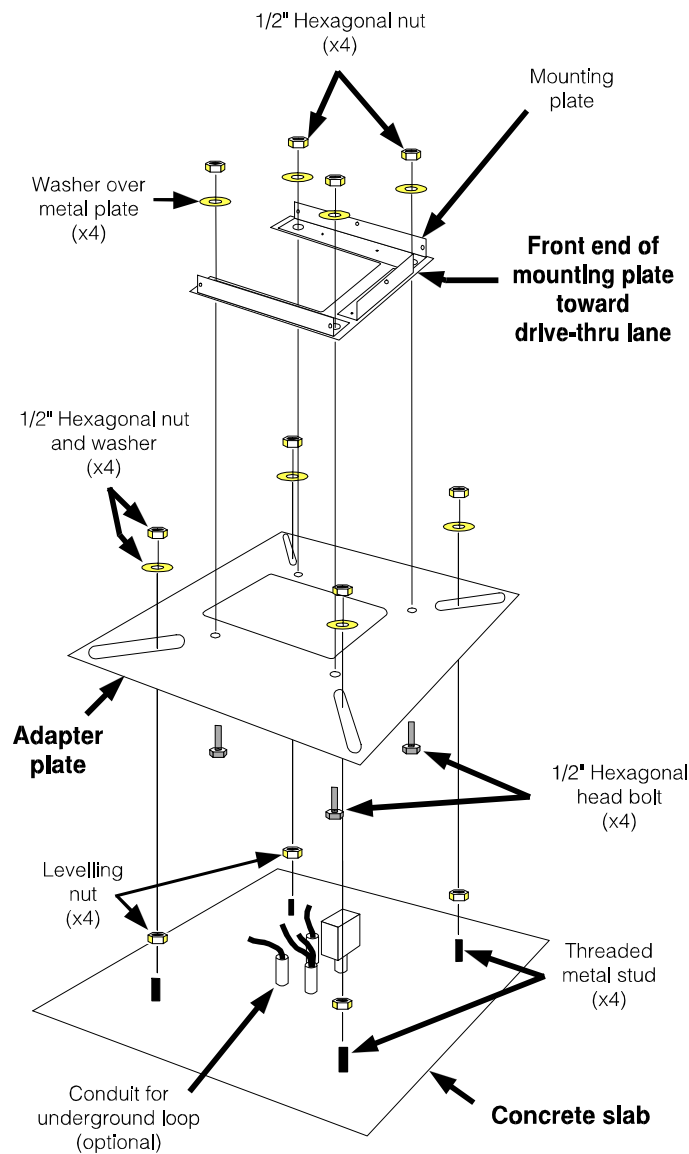

Figure 11.
- ! Assemble the mounting plate and adapter plate with the enclosed nuts, washers and bolts as shown in Figure 11.
- ! Install the four enclosed levelling nuts on the four studs on the concrete slab, as shown in Figure 11. Install the adapter plate on top of the levelling nuts. Use a level to adjust the positions of the levelling nuts until the adapter plate is level. Install the remaining four nuts and washers on the four studs to secure the adapter plate to the concrete slab.